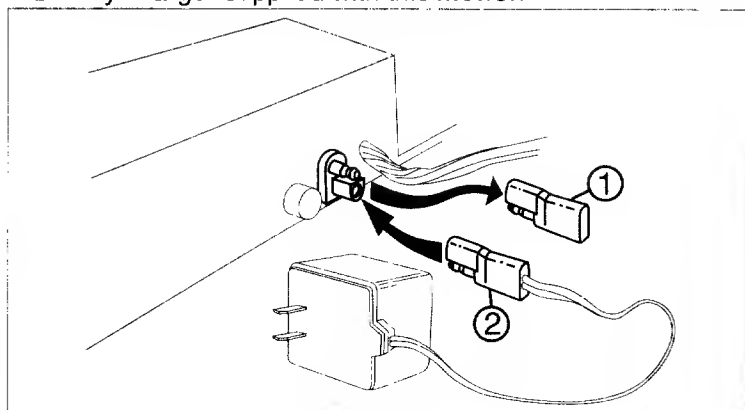

Figure 8
To charge the battery, first remove the protective cap (1) from the end of the battery pack lead. Always plug charger lead (2) into battery pack lead before inserting battery charger plug into 120 volt standard household outlet. See Figure 8